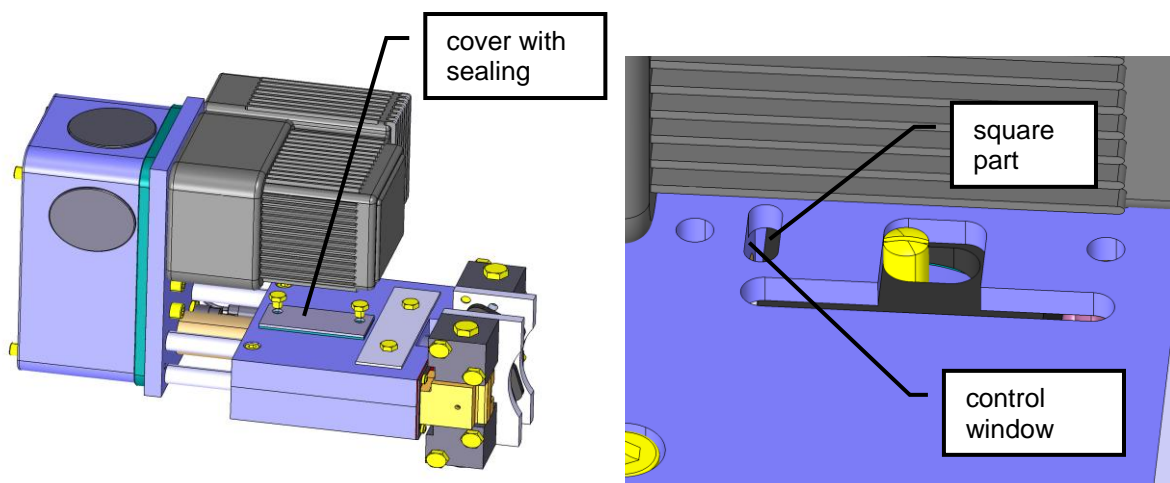

Fig. 9: Checking the reserve stroke directly at the square part
Alternatively the reserve stroke can be controlled directly by removing the cover and the sealing at the top of the brake housing. The distance between the square part and the housing can be measured through the control window with a feeler gauge or by eye. It must be approx. 3 mm (= 50% of control window, see figure 9).
2. Remove cover and sealing from topside of housing (figure 9).